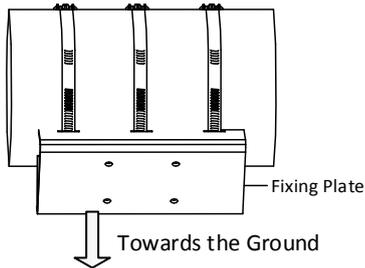

Figure 1-7 Drill Hole and Insert Expansion Screws
2. Fix the hoop to the pole by adjusting the hoop according to the pole, as shown in Figure 1-7.